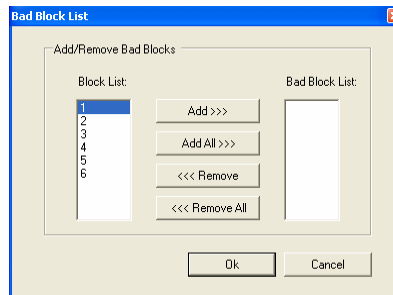

Figure 13. Bad Block List
1. **Tools→Bad Block List** (Figure 13) enables the user to delete bad blocks from the entire data set, and thus generate clean analysis data for both exported data and Fourier transform analysis.